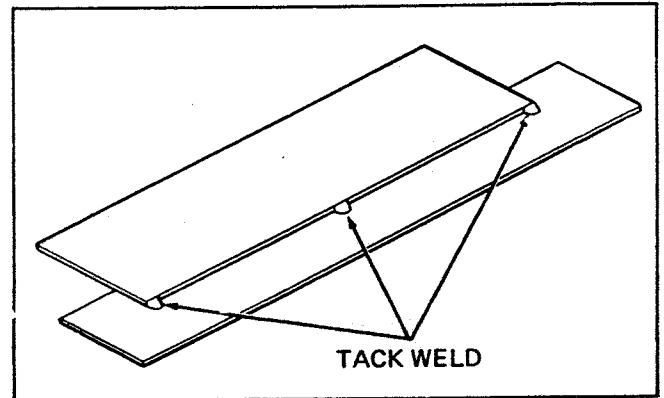

Figure 25
1. Tack the panel at each end and in the middle. See Figure 25